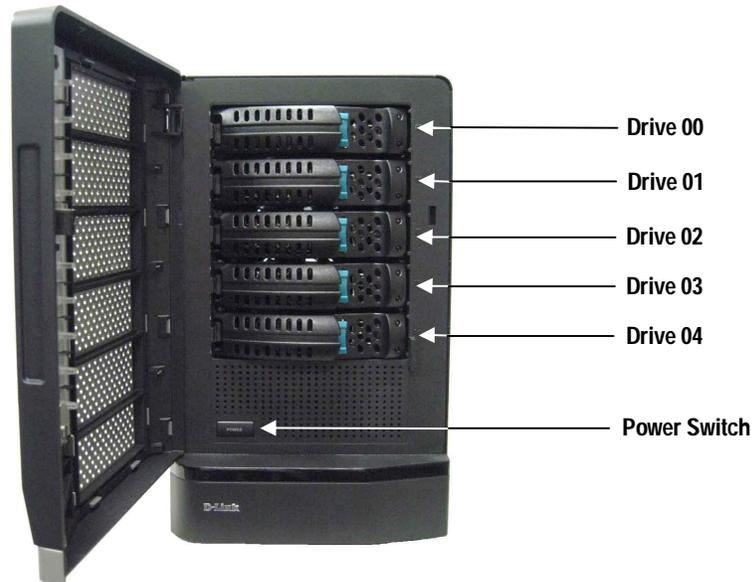

Figure 2-3. Front View with Cover Open
- System power switch (see Figure 2-3 and Table 2-3).
- Five hot-swappable drive trays. (see Figure 2-3)